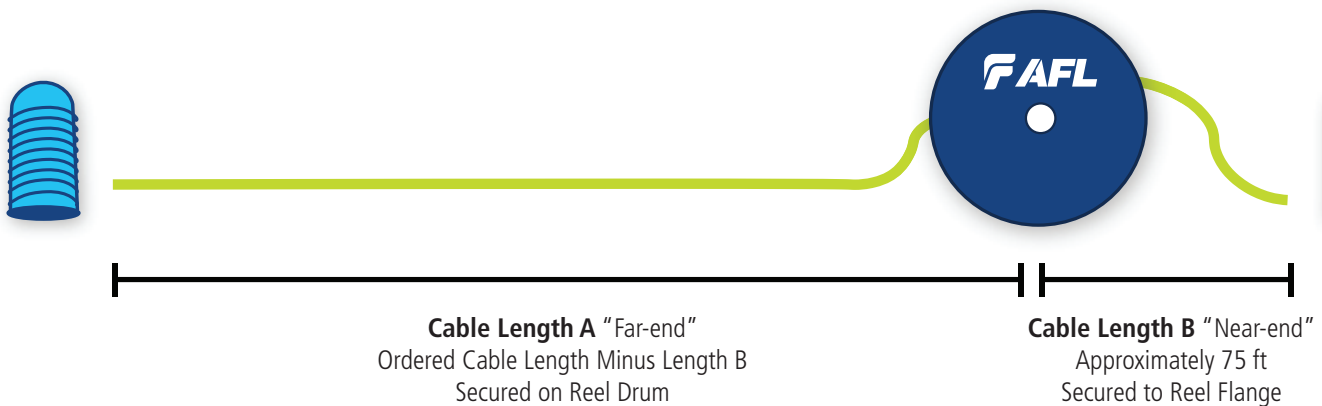

Figure 2 – Apex Restoration Kit Cable Length A/Length B Configuration
2. Cable will be configured on a plastic, rigid reel with a total cable length as ordered by the customer, typically 500 feet or 1,000 feet. “Length B” will be approximately 75 feet of cable secured separately to one of the inside flanges of the reel, with the remainder of the cable length on the reel drum, “Length A”. (Figure 2)